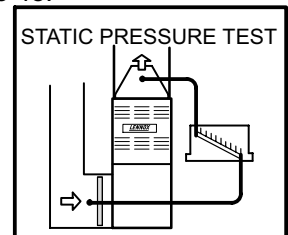

FIGURE 48
- 1 - Tap locations shown in figure 48.